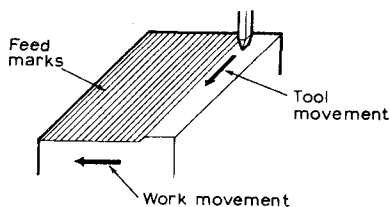

Fig. 4.208 The action of a shaping machine
**Action of the shaping machine.** Fig. 4.208 shows how a flat surface is produced on the shaping machine. It will be seen that the tool movement and the work movement